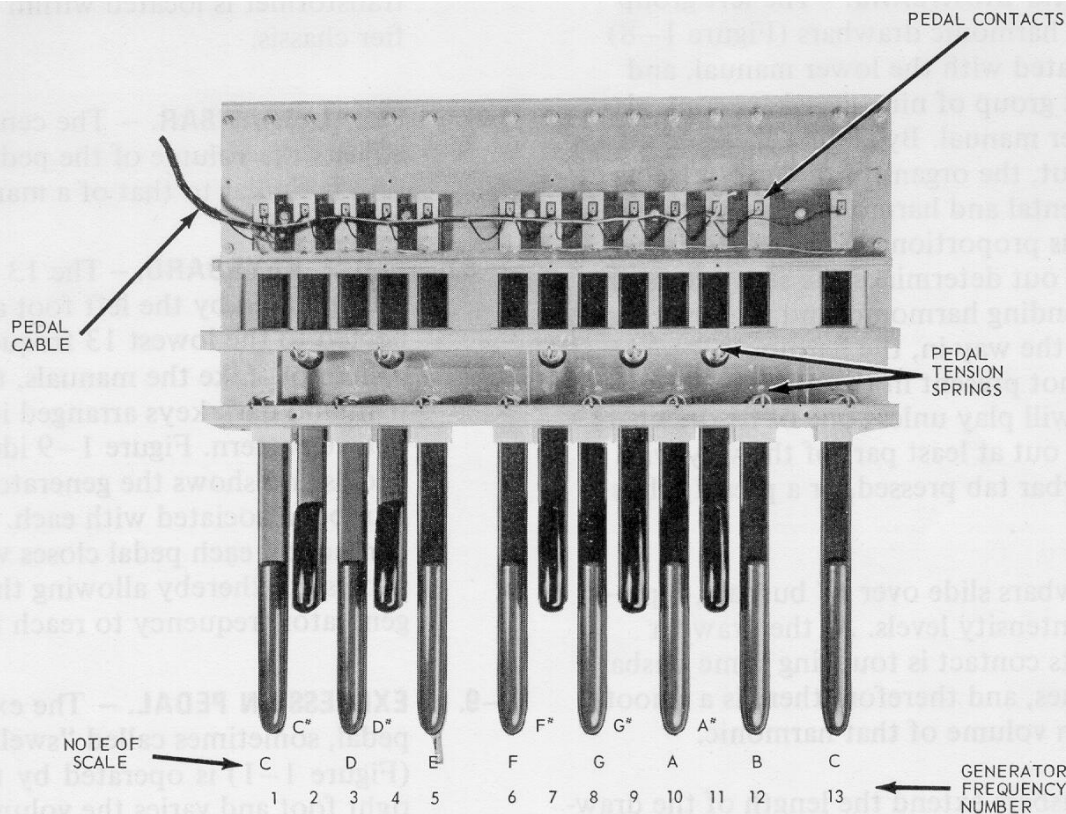

Figure 1-9. Pedal Keyboard
**1-8. PEDAL KEYBOARD.** — The 13 playing pedals are operated by the left foot and are connected to the lowest 13 frequencies of the generator. Like the manuals, they have light and dark keys arranged in the standard octave pattern. Figure 1-9 identifies the pedals and shows the generator frequency number associated with each. A single contact on each pedal closes when the pedal is pressed, thereby allowing the correct generator frequency to reach the amplifier.